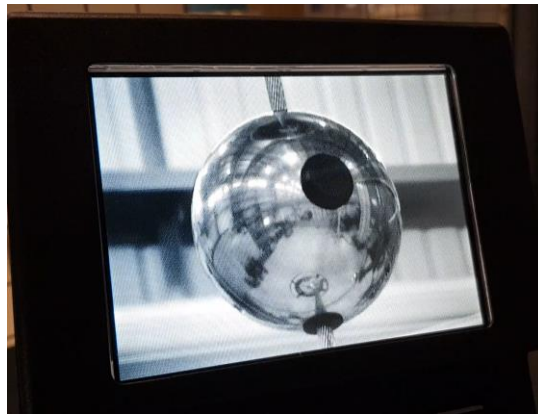

Figure 1 Corona discharge camera results
- A corona discharge camera was used in order to inspect and evaluate the generation of corona discharge in the Intel-Line system encapsulation. Results are shown in Figure 1.